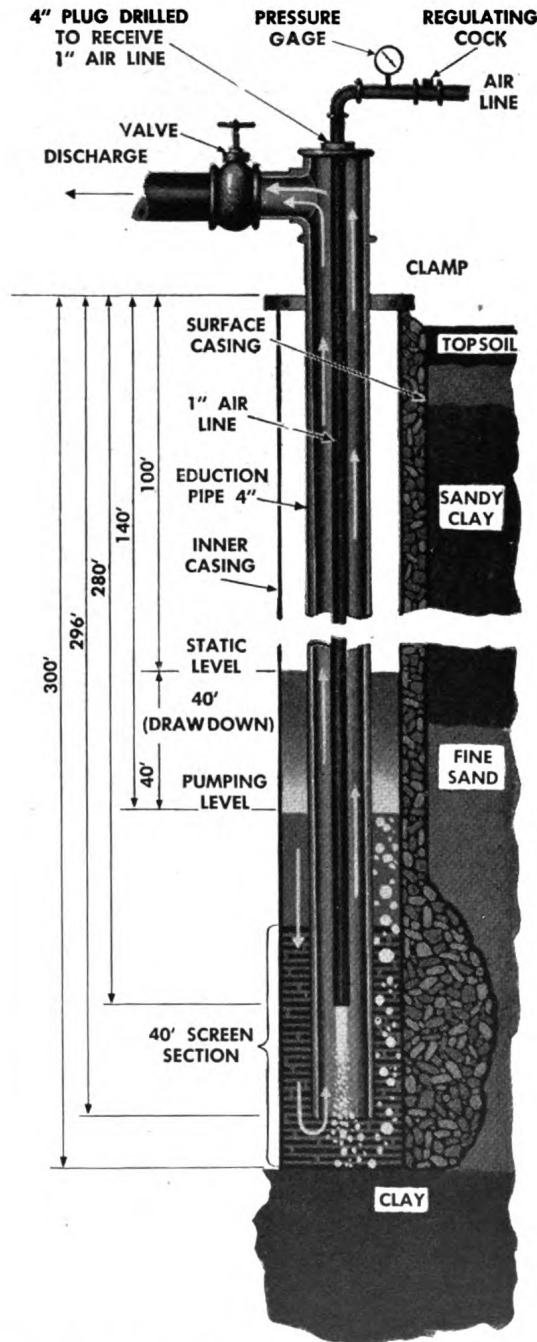

Figure 17. Backwashing and back-blowing a gravel-wall well.
(3) The best way to clean a sand well is by a combination of backwashing with water and back-blowing with compressed air after pump has been pulled from the well (fig. 17). This method washes screen, breaks down sand and silt impacts, and removes slime and coating. Compressed air gives a better surging and washing effect than straight backwashing with water and has the added